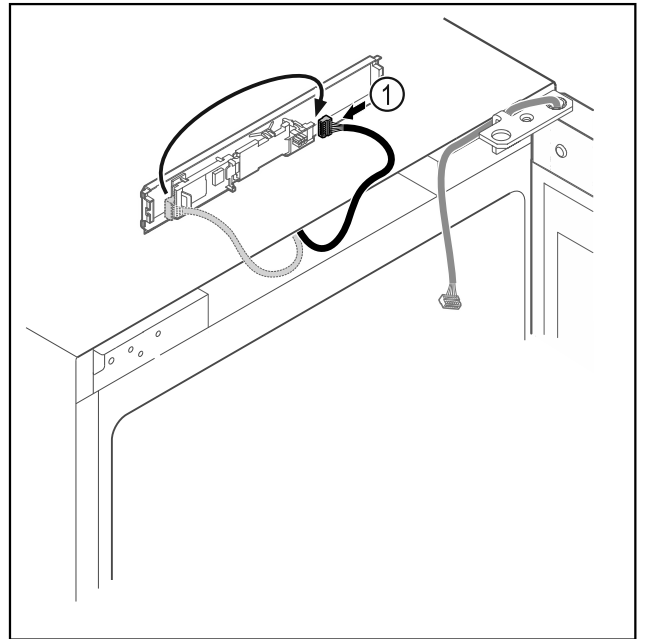

Fig. 14
- ▶ Connect the plug Fig. 14 (1) to the circuit board.